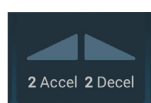

Figure 3-20: Acceleration / Deceleration Profile Box on Home Screen
1. Tap the **Accel / Decel** icon on the left in the “Acceleration / Deceleration Profile” box on the “Home” screen, shown in Figure 3-20 below.